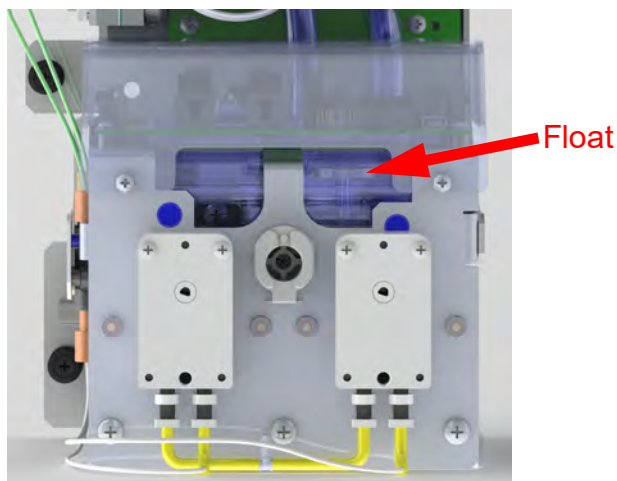

Figure 12: DI Reservoir Level with Float
6. Squeeze the bottle to fill the DI reservoir until the water line reaches JUST BELOW the top of the reservoir. Use the float seen through the window as a guide, as shown in Figure 12.